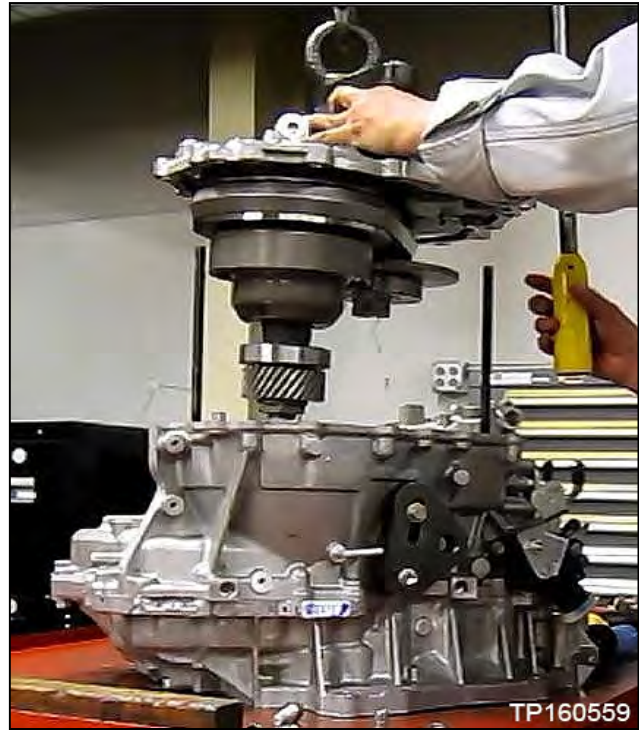

Figure 81
62. Raise the Lifting Fixture to remove the “side cover with pulleys and belt assembly” (sub-assembly) from the CVT case (Figure 81).